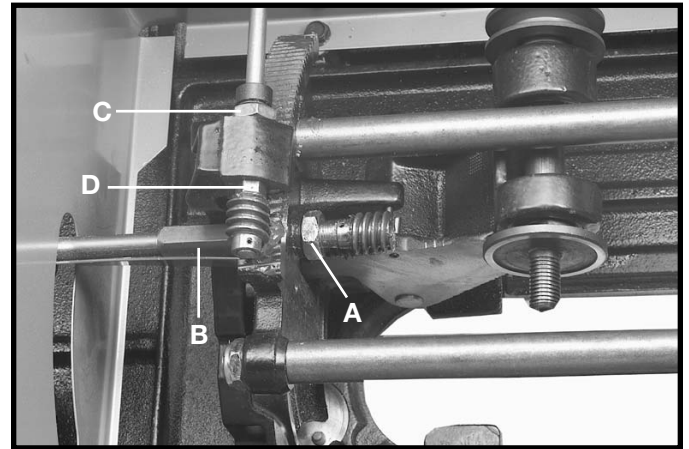

Fig. 101
3. **Adjusting blade raising mechanism** - Loosen locknut (A) Fig. 101, and turn eccentric sleeve (B) until all play is removed in mechanism and tighten locknut (A).
4. **Adjusting blade tilting mechanism** - Loosen locknut (C) Fig. 101, and turn eccentric (D) until all play is removed in mechanism and tighten locknut (C).